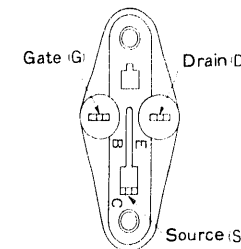

Fig. 5
- (1) When the stabilized power circuit and the peripheral parts of Q701 and Q702 (D705, R706, R707 and their peripheral parts) are replaced, the adjustment of the input/output DC may drift, so be sure to check the input/output DC voltage.
- (2) Since ⊕ grade of FET is specially classified into ⊕1 - ⊕3 for Q701 and Q702, replace them matching the proper grade with the proper channel.
- (3) Since the socket for transistor use is used for the socket of the POWER MOS FET, polarity is indicated as B, C, E. Match it to the indications shown in Fig. 5 when replacing the POWER MOS FET and when checking.